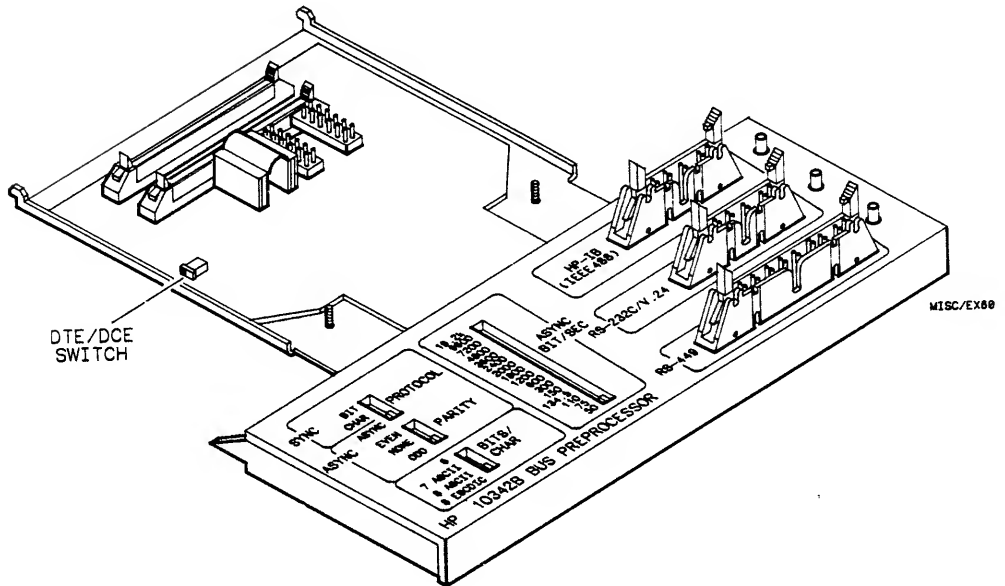

Figure 5-2. DTE/DCE Switch Location
3. Set the DTE/DCE switch (see figure 5-2) to the position corresponding to the desired sync transmit clock. If the transmit clock from the terminal (computer) is desired, use DTE and, if the transmit clock from the modem is desired, use DCE.